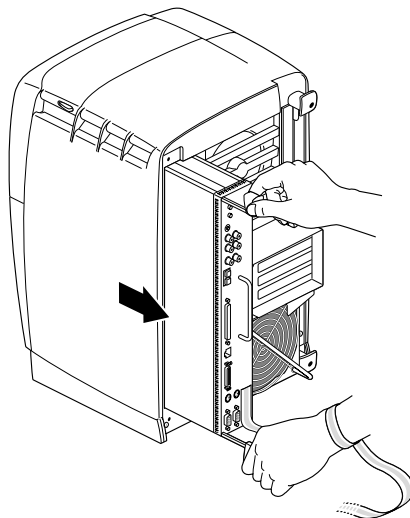

Figure 4 - System Module
- b.) Pull both handles at the same time until they are fully extended (Figure 4)